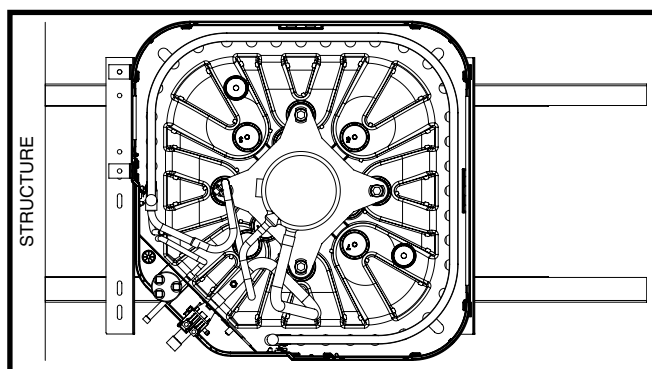

Figure 7. Small Footprint - Control Panel Right
- See Figure 7 for small footprint units with control panel on the right.